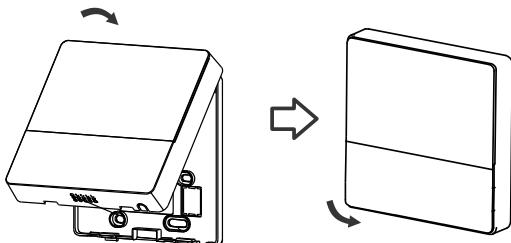

Fig. 3-12
- After adjusting the upper case and then buckle the upper case; avoid clamping the wiring during installation. (Fig 3-12)